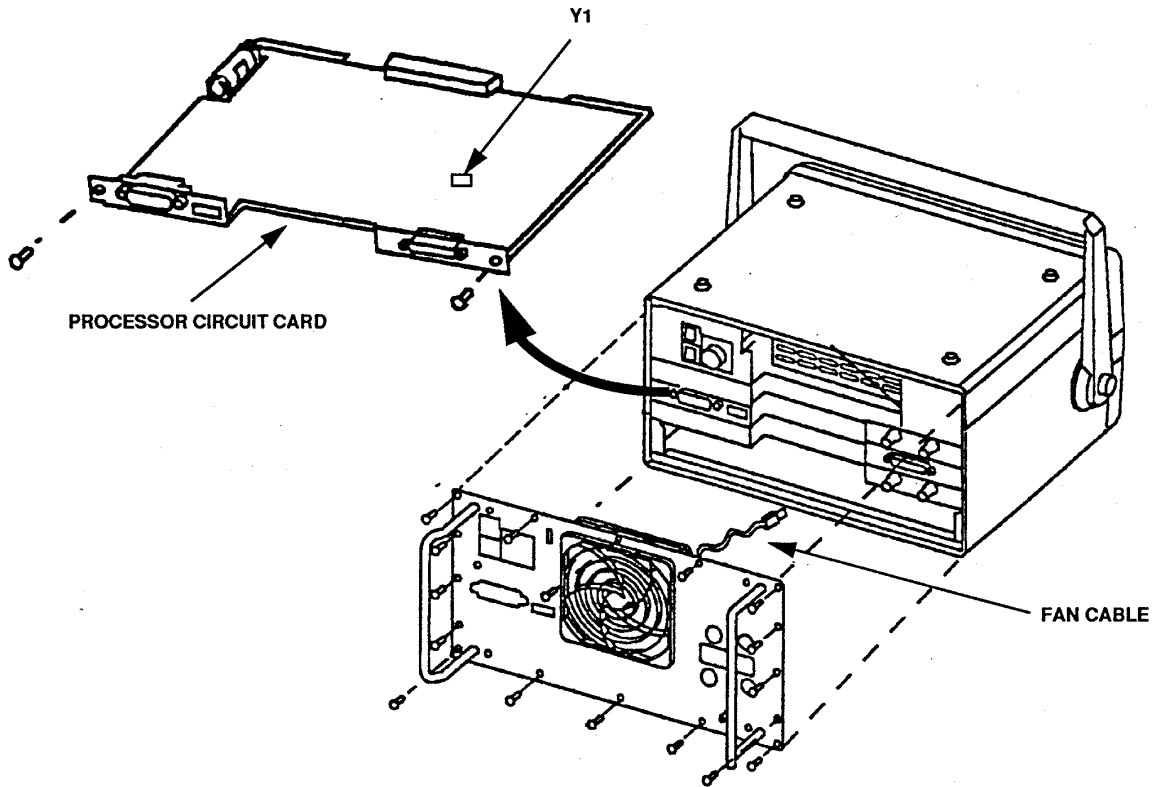

Figure 1. Adjustment.
- (1) Remove rear panel.
- (b) Remove 16 screws from rear (fig. 1).
- (c) Gently pry rear panel loose from chassis and disconnect **FAN CABLE** (fig. 1)
- (2) Install extender card.
- (a) Remove **PROCESSOR CIRCUIT CARD** (fig. 1).
- (3) Repeat technique of **a** (1) through (5) above.
- (4) Adjust Y1 (fig. 1) for a 12.0 MHz (± 10 Hz) indication on frequency counter (R).
- (5) Reassemble TI and repeat a above.